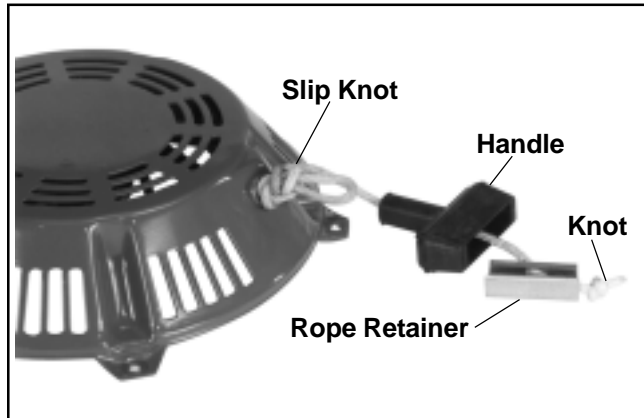

Figure 7-3. Removing Starter Handle.
2. Pull the rope out approximately 12" and tie a temporary (slip) knot in it to keep it from retracting into the starter. See Figure 7-3.